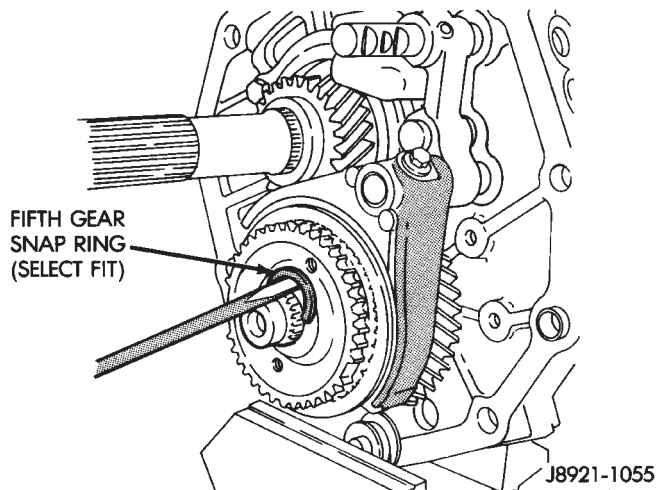

Fig. 50 Remove Fifth Gear Snap-ring
(2) Remove countershaft fifth gear retaining snap-ring (Fig. 50).